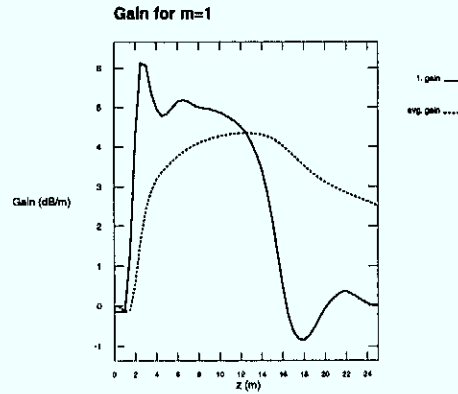

Figure 2: Instantaneous and average gain (in dB/m) along the undulator.
- Instantaneous and average gain (See Fig. 2).